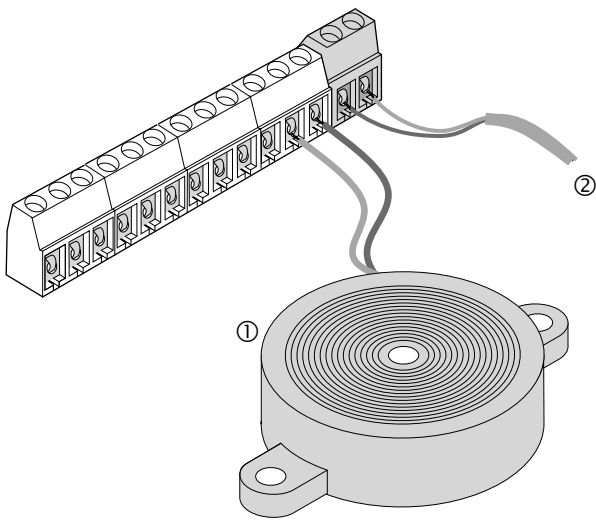

Figure 13. Piezo status beeper connections
1. Connect a piezo beeper between the test output (T) and ground (GND) (see Figure 13).